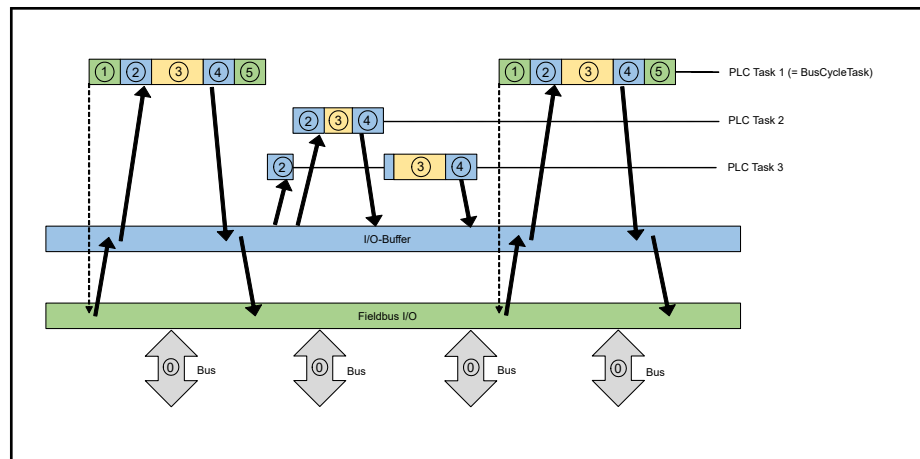

Fig. 4-17: Schematic diagram of the bus cycle task
¹⁾ I.e. If "Enabled 2" is selected, it is always copied between PLC I/O data and I/O buffer in the bus cycle task and not in the task using I/O data, see ② and ④ in fig. 4-17 "Schematic diagram of the bus cycle task" on page 28.